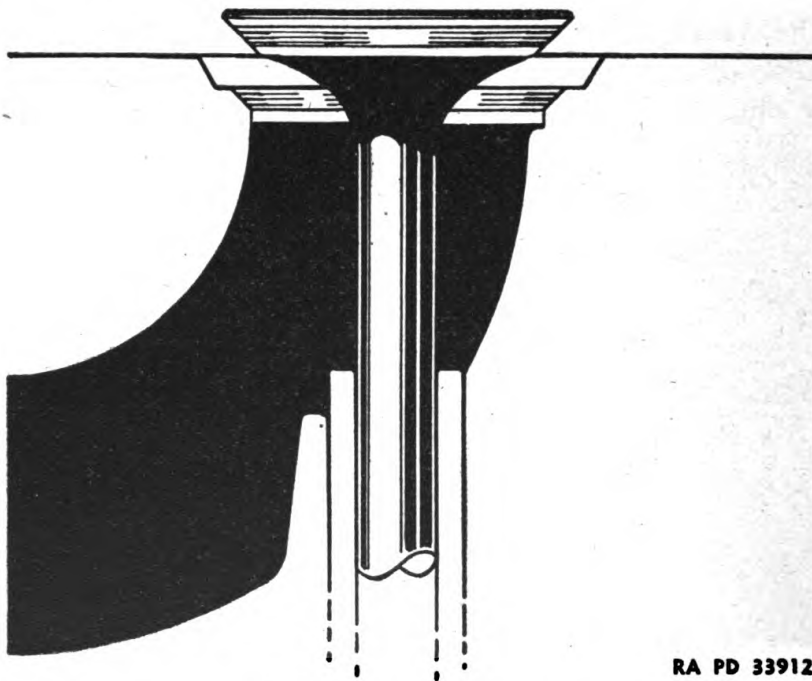

FIGURE 23.—Valve seat.
c. Valve seat widths.—Valve seats (fig. 23) in the cylinder heads are from $\frac{1}{64}$ inch to $\frac{3}{16}$ inch wide. Originally, the seat contacted the valve in the center of the valve face or $\frac{3}{64}$ inch from the top or from the bottom of the valve face.
(1) It is unnecessary to narrow the valve seats in the head unless the seat becomes wide enough to contact within $\frac{1}{64}$ inch of the top of the valve face.